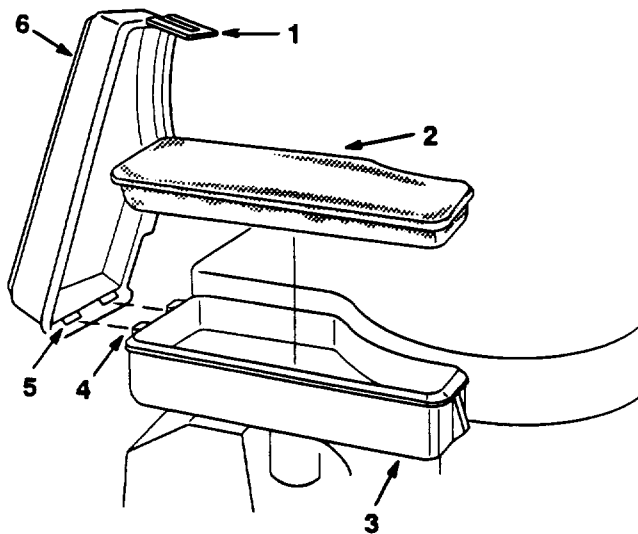

Figure 27
3. Clean around the air cleaner to prevent dirt from getting into the engine and causing damage. Remove the air cleaner cover by pulling out and up on the latch at the narrow end of the cover (Fig. 27). Remove the foam element from the air cleaner body.